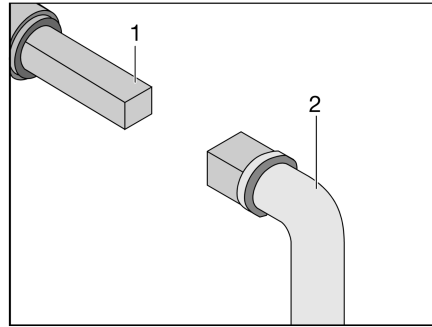

Fig. 353 Operation of the waste water tap
- Place key (Fig. 353,2) onto the square bolt (Fig. 353,1).